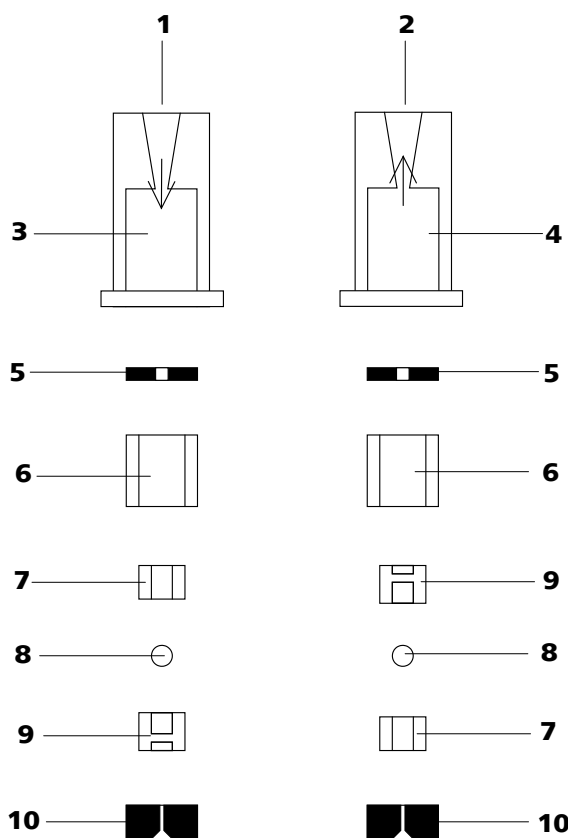

Figure 43 Components of the inlet valve and outlet valve
Reassemble valve components *according to figure 43, page 78*.
- Lay the other valve components above another in the correct sequence (*see figure 43, page 78*).
If this is not the case, the valve has to be dismantled again and be reassembled correctly (*see figure 43, page 78*).